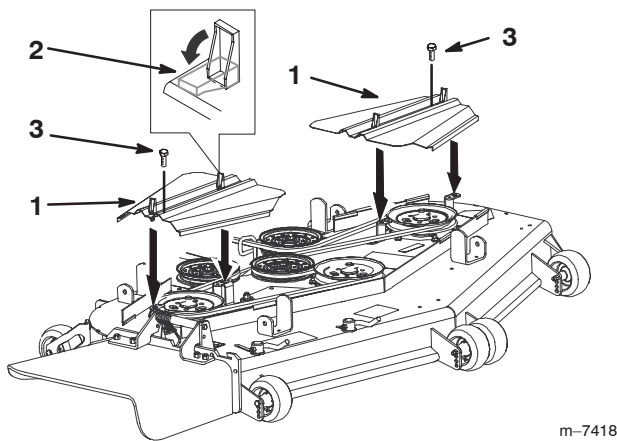

Figure 73
3. Remove the belt covers (Fig. 73).
10. Install the belt covers and close the latches (Fig. 73).